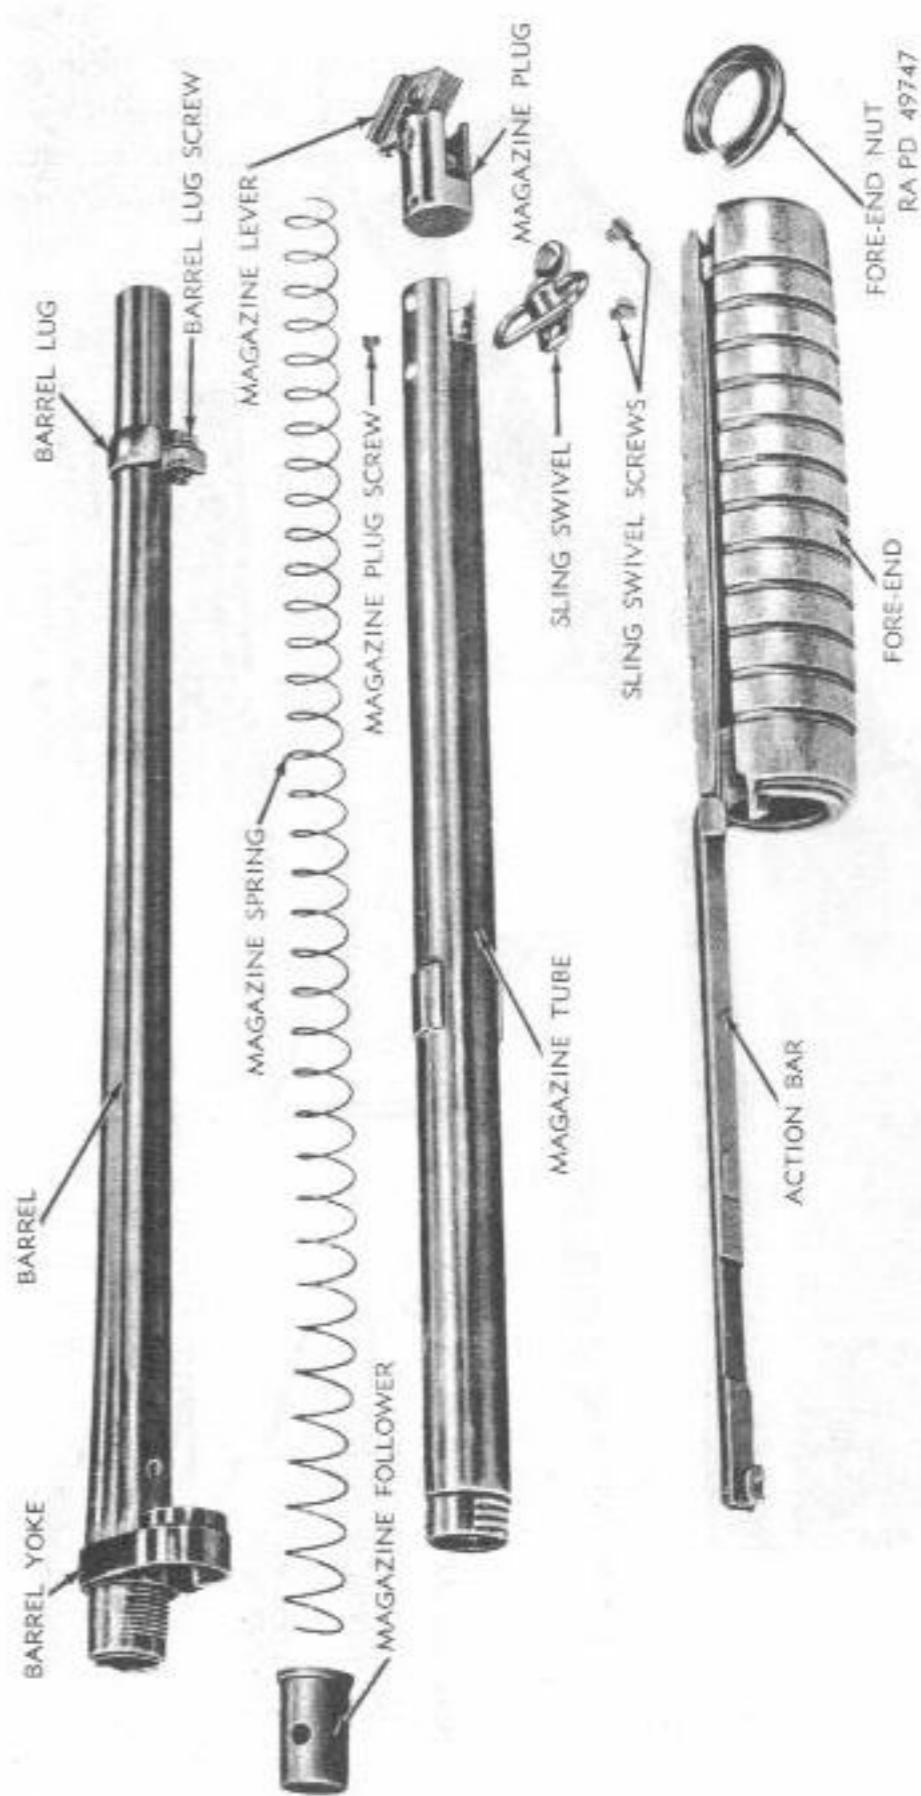
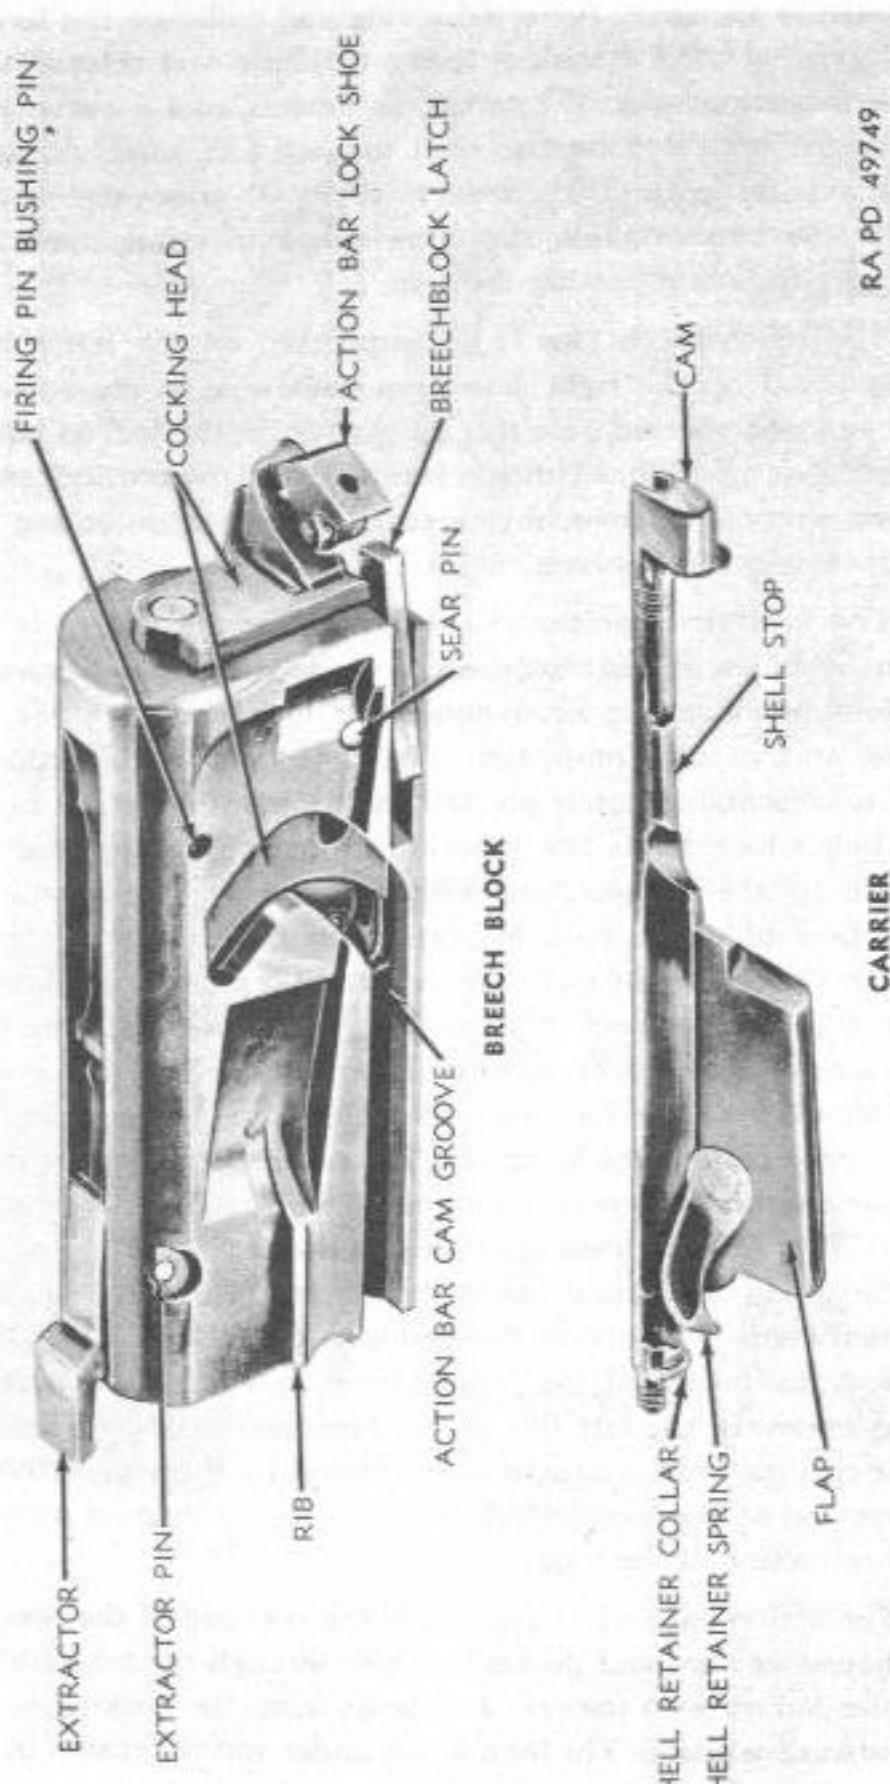

Figure 69—Barrel, Magazine and Action Bar Group—Disassembled View—
Figure 71—Breechblock and Carrier Groups—Rear, Top and Left Side View—Showing Location of Parts—Remington Shotgun M10
(2) The sporting-type gun is furnished with a 30-inch barrel, bored full choke, and is without bayonet attachment or sling.
(3) The M10 is no longer made by Remington, but a number are still in use in the field.
d. General Description (figs. 69, 70, 77, and 78).
(1) The stock of the gun is fitted to the rear end of the receiver and bolted to the trigger guard tang, and the barrel and magazine locked to the forward end of the receiver as already explained in paragraph b above. The fore end and action bar group is mounted and operates on the magazine tube. The rear end of the action bar passes through the forward end of the receiver and engages with, reciprocates, and cam-operates the breechblock, which in turn engages with and cam-operates the carrier.
(2) The magazine which is of the tubular type is positioned beneath the barrel and has a capacity of five shells loaded end to end. The shells are pressed together and fed into the receiver by the force of the magazine spring acting upon the follower. The magazine is locked to the barrel lug by a lever pivoted in a slot in the magazine plug and held in position when locked by a spring-loaded detent. The magazine spring is held in the tube by the magazine plug and follower.
(3) The receiver contains the operating and firing mechanism with the exception of the trigger, and to its rear end is attached the trigger guard in which is mounted the trigger, trigger spring, and safety slide. The receiver is open at the bottom for loading and ejection of shells and at the rear for passage of the breechblock on its rearward movement. The action bar lock button, which is operated to disengage the action bar lock and allow the action bar to be retracted, is positioned in the right wall of the receiver. The carrier stop which supports the rear end of the carrier is seated in a vertical undercut groove in the rear inner right wall of the receiver. The ejector spring is seated in an undercut groove in the top of the receiver and acts to spring the fired shell down out of the receiver when extracted from the chamber by the extractor on the breechblock. The flap of the carrier assists this function as it is cam-rotated down behind the ejected shell.
(4) The forward end of the carrier (fig. 71) is seated in a blind hole in the right forward, inner face of the receiver and held firm by a spiral friction spring also seated in the hole. The rear end of the carrier pivots on a pin seated in a hole in the carrier stop positioned in the right inner wall of the receiver. The rear end of the carrier is formed into a cam lug
(5) The breechblock (fig. 71) is supported on the left side by the action bar, and on the right side by a guideway in the receiver. The forward end is supported on either side, when in the locked position, by a supporting pin positioned in the receiver wall. When locked, the top of the rear end of the breechblock seats in front of a locking shoulder cut in the top of the receiver.
(6) The firing mechanism with exception of the trigger is mounted in the breechblock and is composed of the firing pin, main spring, firing pin bushing, sear, cocking head, action bar lock, and extractor, together with their springs and components. In some guns of late manufacture, there is a breechblock latch pivoted in the lower rear left face of the breechblock which holds the breechblock in the locked position until disengaged by the rearward movement of the cocking head. In other guns the breechblock is held by the action bar only, which in turn is blocked by the action bar lock. The firing pin is housed in a longitudinal aperture in the breechblock, the rear end passing through the firing pin bushing pinned in the breechblock. The mainspring is compressed between a shoulder on the forward end of the firing pin and the firing pin bushing, and functions the firing pin. The cocking head slides in grooves in the rear end of the breechblock and is connected to, and retracts the firing pin. The cocking head is moved to the rear by a lug on the rear end of the action bar, bearing upon its forward face, as the action bar is moved rearward. The action bar unlocks, reciprocates and locks the breechblock by means of the lug referred to above, which seats in a camming groove in the left side of the breechblock. When moved rearward, the cocking head is caught and retained by the sear, also mounted in the rear end of the breechblock until the sear is levered from engagement by retraction of the trigger.
(7) The action bar lock is pivoted in the rear end of the breechblock. The L-shaped forward end passes laterally through the breechblock, and a spring-loaded shoe on the rear end bears upon the cocking head when in the rearward position. The lock is put under spring tension by bearing upon the cocking head when in the rearward (cocked) position, and the right wall of the receiver. When the breechblock is locked in the forward
40. REMOVAL OF GROUPS (figs. 69, 70 77, and 78).